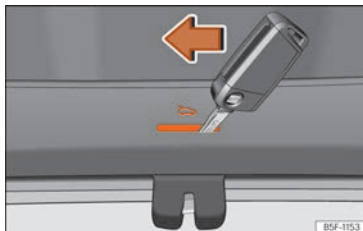

Fig. 106 Detail of the luggage compartment: emergency unlocking (LEON model).
- Insert the key blade into the slot and move the key in the direction of the arrow until the lock unlocks »» Fig. 106.